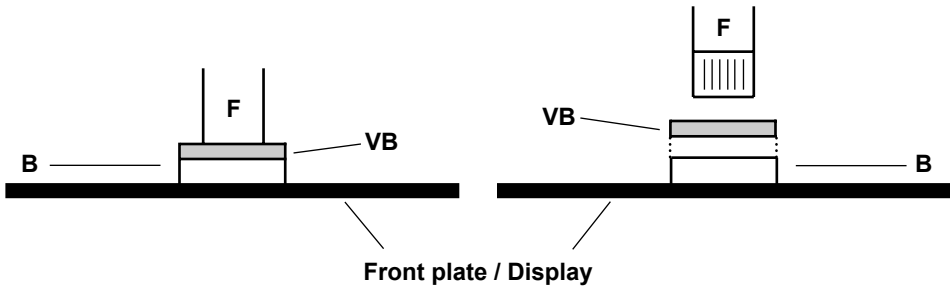

Fig. 3
- 4) Remove the ribbon cable from the display unit. For that pull up the securing clamp (**Fig. 3**). Note down the position of the contact side of the ribbon connector.